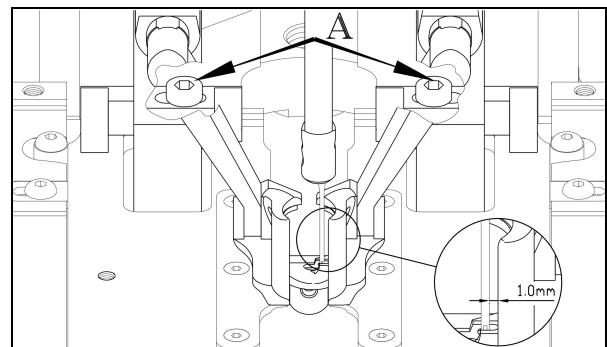

Fig 2
3.  Turn off the motor. Unlock the machine and turn the needle bar to the outside stroke. Manually turn the machine through the sewing cycle and check the clearance between the needle and the clamp foot. The distance should be 1.0mm as in Fig 2. Loosen screw (A) and move the clamp arm / foot as necessary.